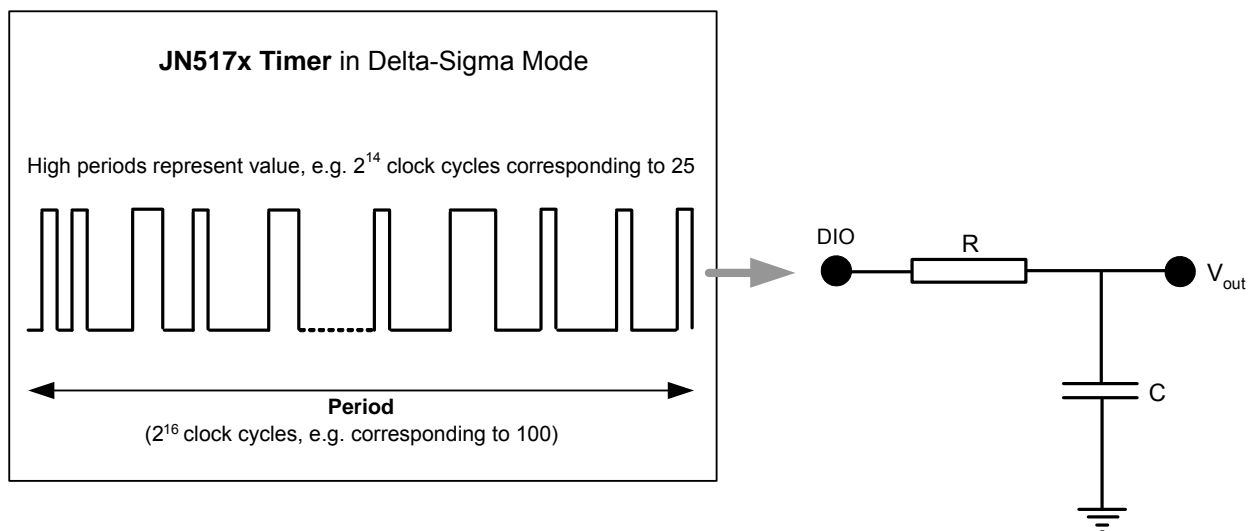

Figure 8: Delta-Sigma NRZ Mode Operation
Delta-Sigma mode allows a timer to be used as a simple low-rate DAC. This requires the timer output on a DIO pin to be enabled in the call to `vAHI_TimerEnable()` or `vAHI_TimerEnableNoneDIO()` - see Section 7.2.1 for the DIOs. An RC (Resistor-Capacitor) circuit must be inserted between this pin and Ground (see Figure 8).
- **NRZ (Non Return-to-Zero):** Delta-Sigma NRZ mode uses the 16MHz peripheral clock and the period of the waveform is fixed at 2^{16} clock cycles. The NRZ option means that clock cycles are implemented without gaps between them (see RTZ option below). You must define the number of clock cycles spent in the high state during the pulse cycle such that this high period is proportional to the value to be converted. This number is set when the timer is started using the function `vAHI_TimerStartDeltaSigma()`. For example, if you wish to convert values in the range 0-100 then 2^{16} clock cycles would correspond to 100, and to convert the value 25 you must set the number of high clock cycles to 2^{14} (a quarter of the pulse cycle) - refer to Figure 8.